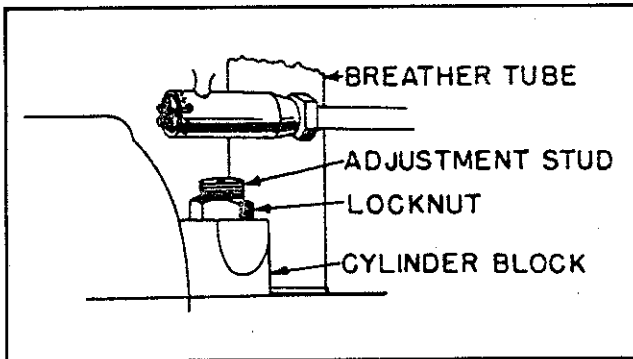

Figure 5-6. Oil Pressure Adjustment
- (1) To increase oil pressure, loosen locknut and turn the adjusting stud inward (clockwise); then, tighten locknut. Refer to figure 5-6.